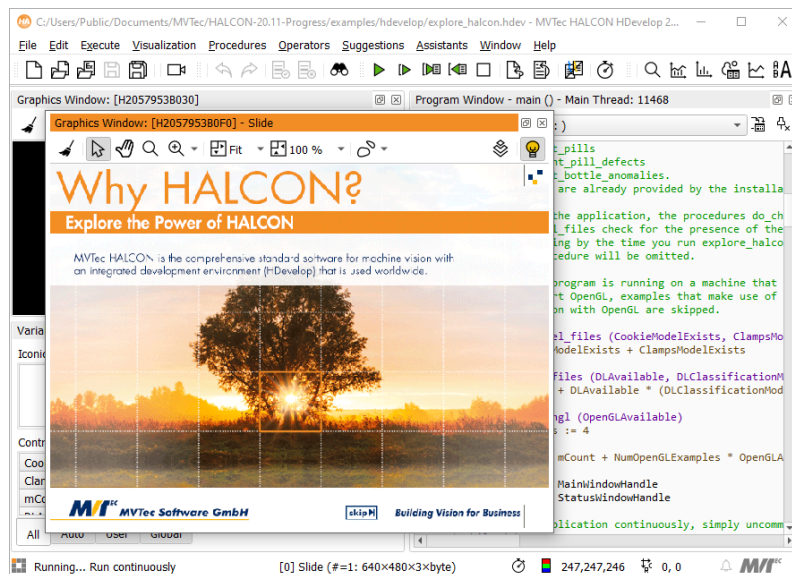

Figure 2.3: Explore the power of HALCON.
“Explore the Power of HALCON” starts up automatically when loaded from the start dialog. After loading it manually or loading one of the other example programs click  or press **F5** to start it, see figure 2.3 (1).